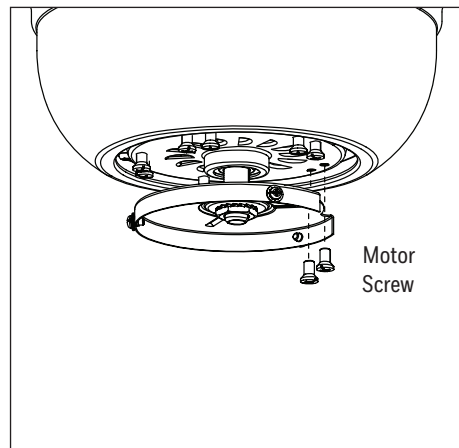

Figure 2.8
8. Remove the ten motor screws from the underside of the motor and set aside for blade arm assembly (Figure 2.8).